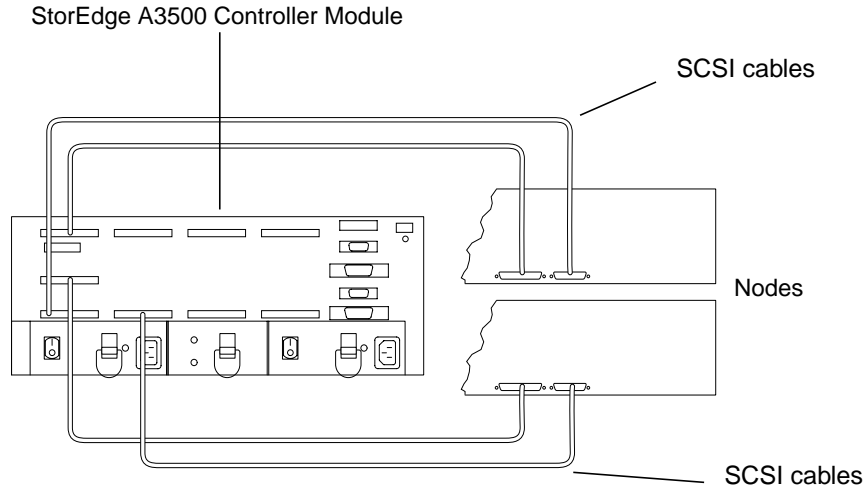

FIGURE 7-1 Sample StorEdge A3500 System Cabling
- See FIGURE 7-1 for a sample StorEdge A3500 system cabling.